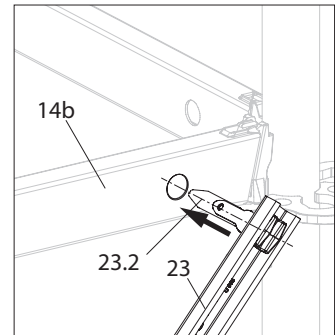

Fig. A4.08d
4. Insert the tilt finger into the hole of the upper horizontal ledger (14b). (Fig. A4.08d)